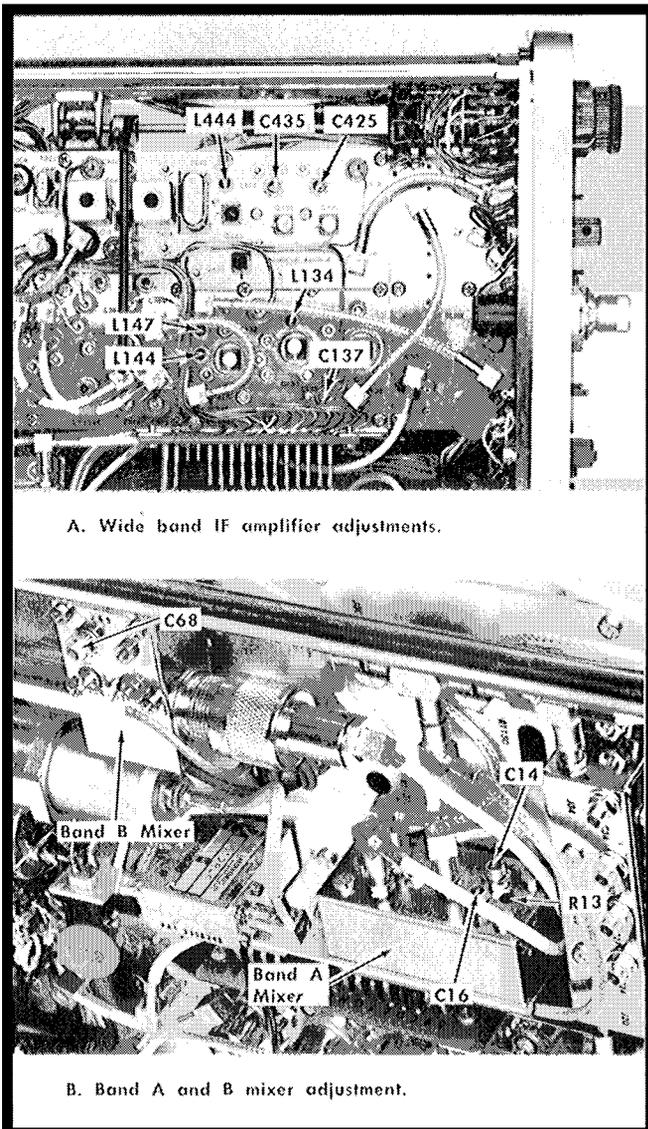

Fig. 6-39. Wide band IF and Mixer tuning adjustments.
- e. Adjust L147 (Fig. 6-39), the 65 MHz trap, for minimum response to the 65 MHz signal.
- k. If the response flatness is not within tolerance, adjust C137 and L134 (Fig. 6-39) for optimum sensitivity and flatness. Adjusting C137 will produce a noticeable affect on the response slope. Adjust L134 for optimum sensitivity at the high frequency end of the response.
- n. Adjust C68 (Fig. 6-39) on the band B RF mixer for optimum sensitivity and bandpass flatness. Tune the signal across the screen with the RF CENTER FREQUENCY control to check flatness.
- f. Adjust C14, C16 and R13 (band A mixer, see Fig. 6-39) to minimize the amplitude of this feedthrough spur over the 5 MHz dispersion window.